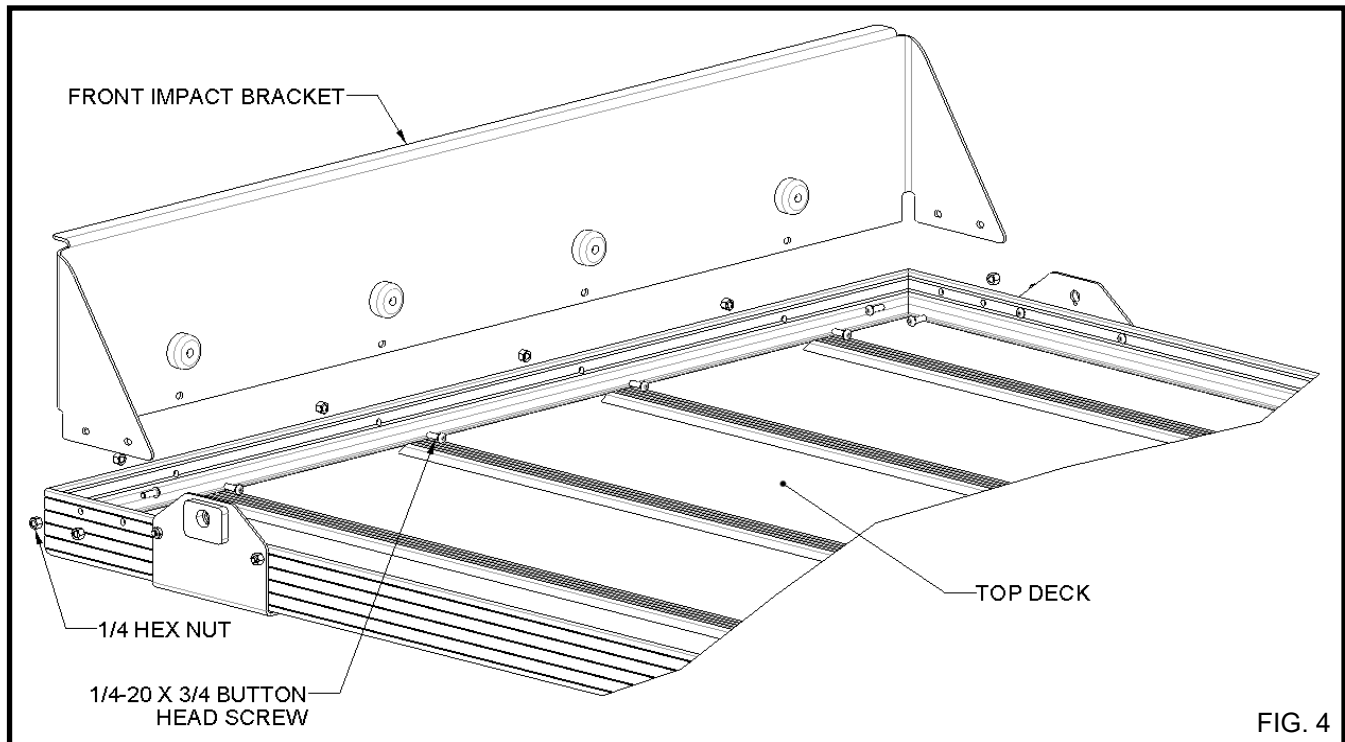

FIG. 4
6.15 Attach the Front Impact Bracket to the Top Deck using the (8) 1/4-20 X 3/4 Button Head Screws and (8) 1/4 lock nuts. (FIG. 4)